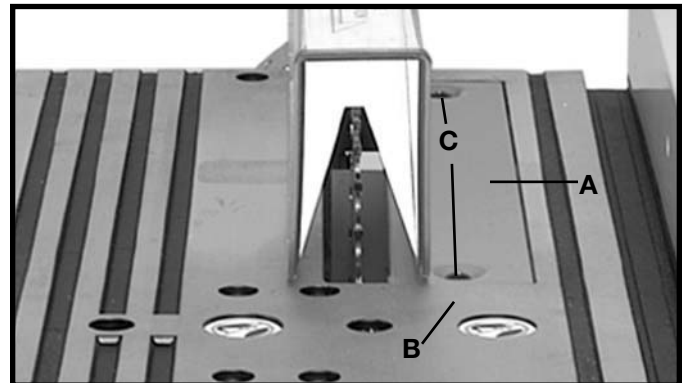

Fig. 37A
2. Make sure that the table insert (A) Fig. 37A, is flush with or slightly below the surface of the table (B).